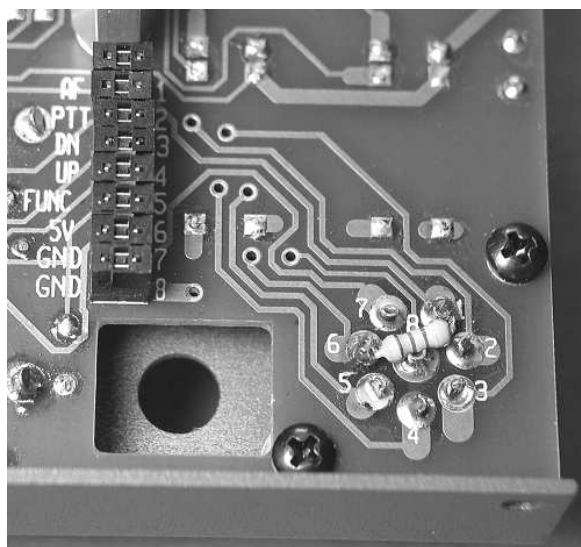

Figure 1
- Install the eight supplied jumper blocks onto the Microphone Configuration Header (P1), which is located on the rear of the Front Panel board. Install each jumper so that it connects each adjacent pair of pins. Pin 1 to AF, Pin 2 to PTT, Pin 3 to DN etc. (see Figure 1).
- Install the supplied 5.6K resistor on the rear of the 8 pin microphone connector between pin 1 and pin 6 (Fig 1). Solder each end of the resistor and trim off the excess lead length.